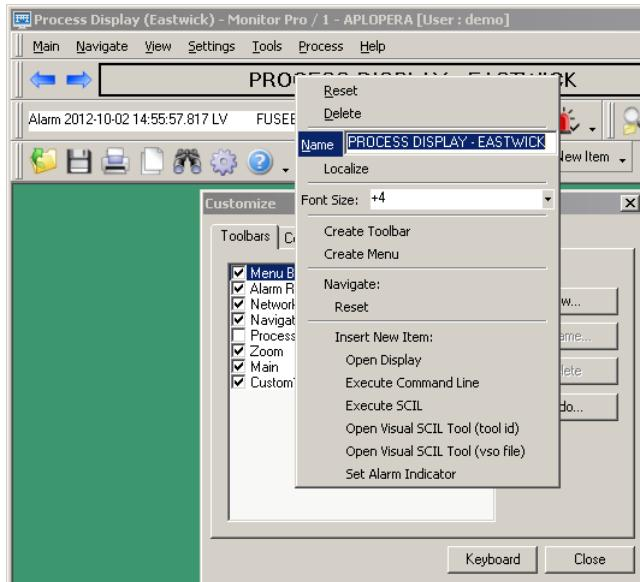

Figure 217: Renaming Process Display
3. Select **Name** and enter new name for the Process Display. See Figure 217: